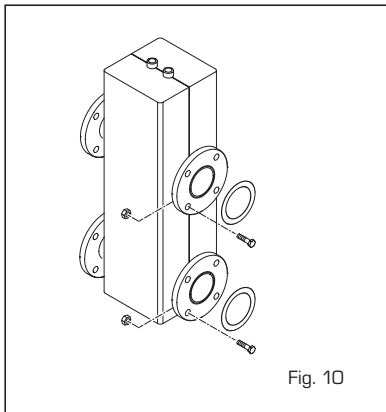

Fig. 10
The hydraulic separator is supplied separately in a kit code 8101552 complete with gaskets, nuts and fastening screws (figure 10).
2.10.3 Hydraulic separator "440-550 BOX ErP" (fig. 10/a)